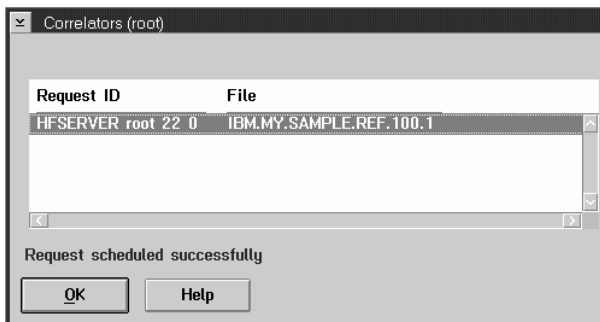

Figure 134. Correlators window
- 11 Select **HFCLIENT** in the Targets list and click on the **Authorize** push button. The Correlators window is displayed, as shown in Figure 134.